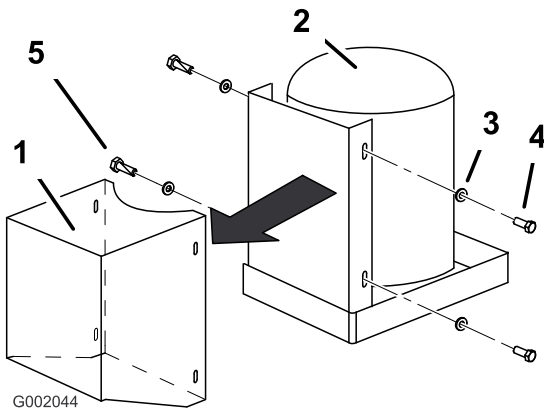

Figure 8
- Remove the 4 bolts (1/4 x 1 inch) and 4 flat washers that hold the cover to the tank/compressor assembly and remove the cover (Figure 8).
9. Attach the cover to the tank/compressor assembly using 3 of the 4 hex-head bolts (1/4 x 1 inch) and flat washers that you removed previously. Leave the bottom right bolt out until later in the installation (Figure 8).